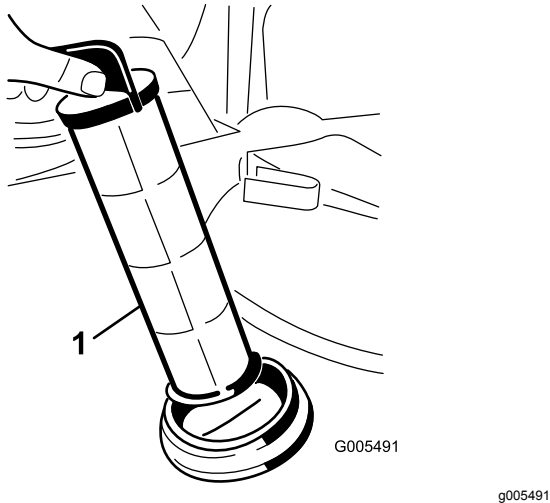

Figure 25
4. Pull the suction strainer out of the strainer housing in the tank (Figure 25).